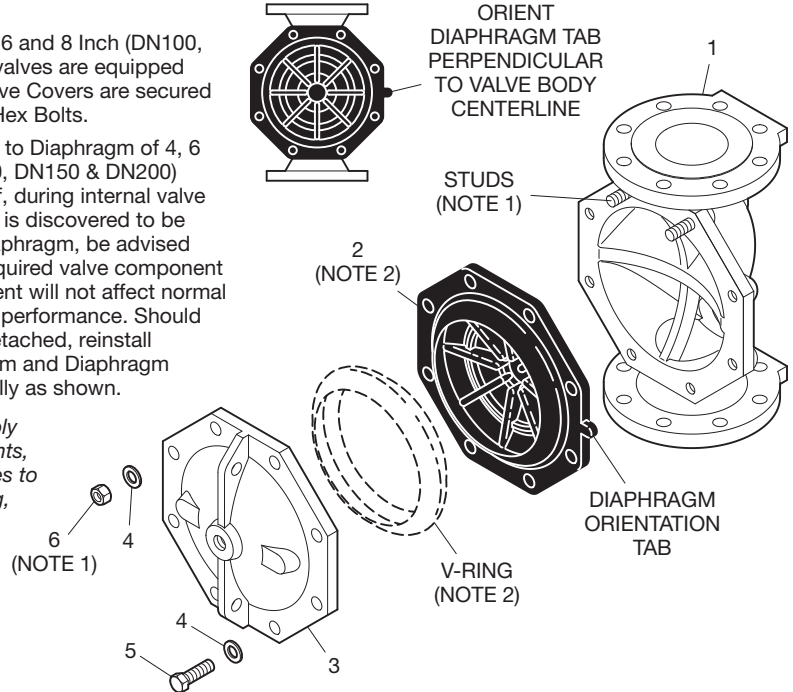

FIGURE 1
Components for the 2 thru 8 inch (DN50 thru DN200), DV-5 Deluge Valves are shown in Figure 1. The DV-5 Valves are for vertical or horizontal installations, and they are rated for use at a maximum service pressure of 250 psi (17,2 bar).
Step 1. Align Diaphragm and Diaphragm Cover in proper orientation with valve body (Ref. Figure 1) and hold in place